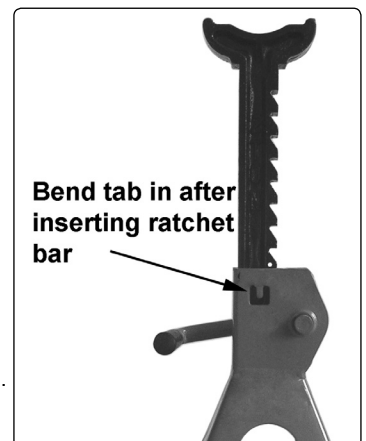

Fig.3
- 4.3. Bend in locking tab using a drift or similar and a hammer (fig.3).